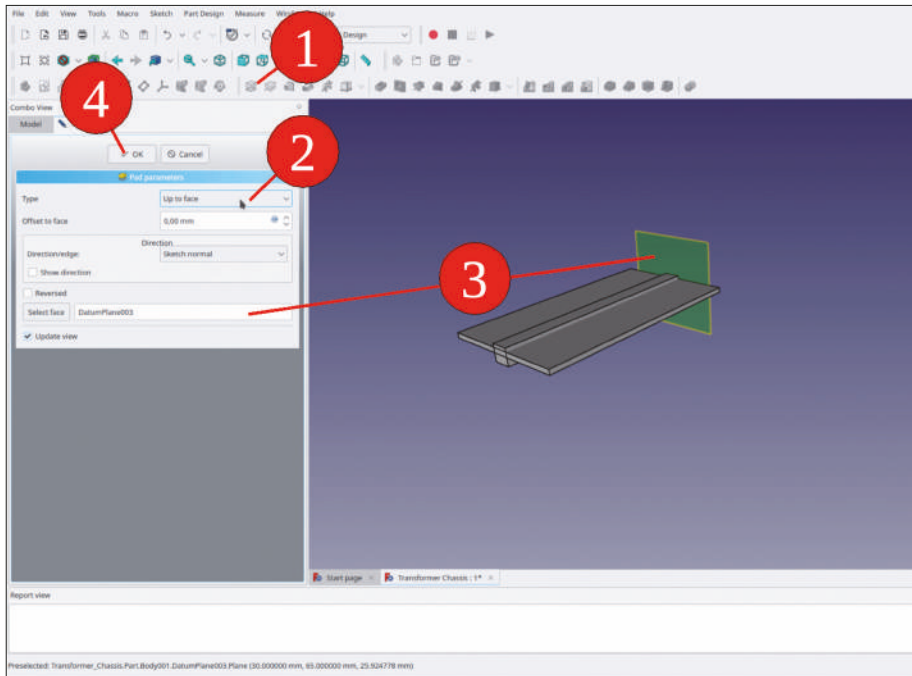

Figure 9-61
30. In the task window, select for the type 'Up to face'. In the 3D view, click the rear datum plane representation (Figure 9-61).